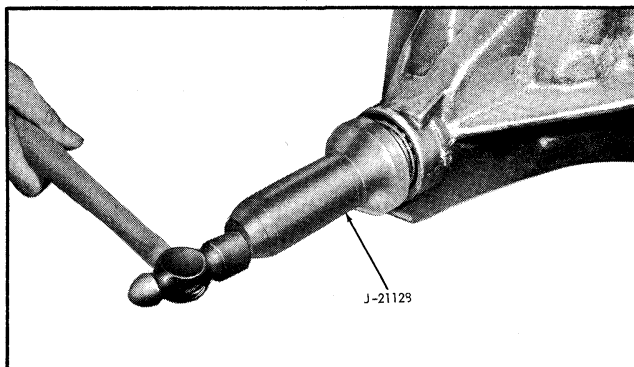

Fig. 4-40 Installing Front Pinion Bearing
2. Place front pinion bearing in position on pinion. Hold pinion fully forward and drive bearing over pinion until seated, using installer J-21128. See Fig. 4-40.